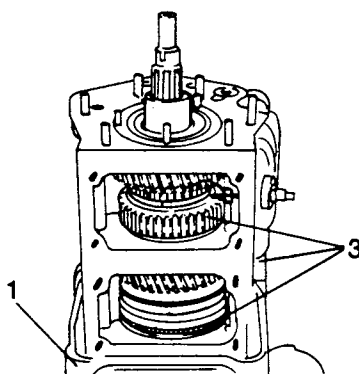

Fig H1.60
- (3) Refer to Fig H1.60. Position the gearbox assembly vertically with the clutch housing (1) downwards.
- (5) Remove the gearbox, casing, sliding it upwards and taking care not to disturb the 1st, 2nd, 3rd and 4th synchro units ((3) on Fig H1.60).